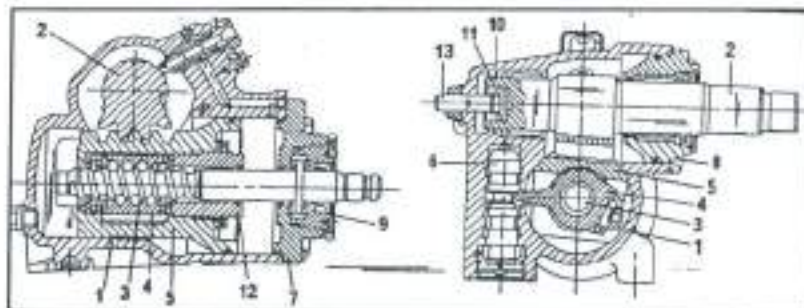

Fig. 6.5 - Sectional view of the power-assisted steering.
- The power-assisted steering can be overhauled, but the work must be left to a workshop. Fig. 6.5 shows a sectional view of the steering for reference.